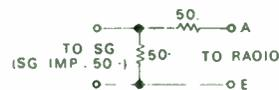

Fig. 2 Antenna Pad
- Connect the signal generator to the antenna receptacle through the antenna pad. (Fig. 2)